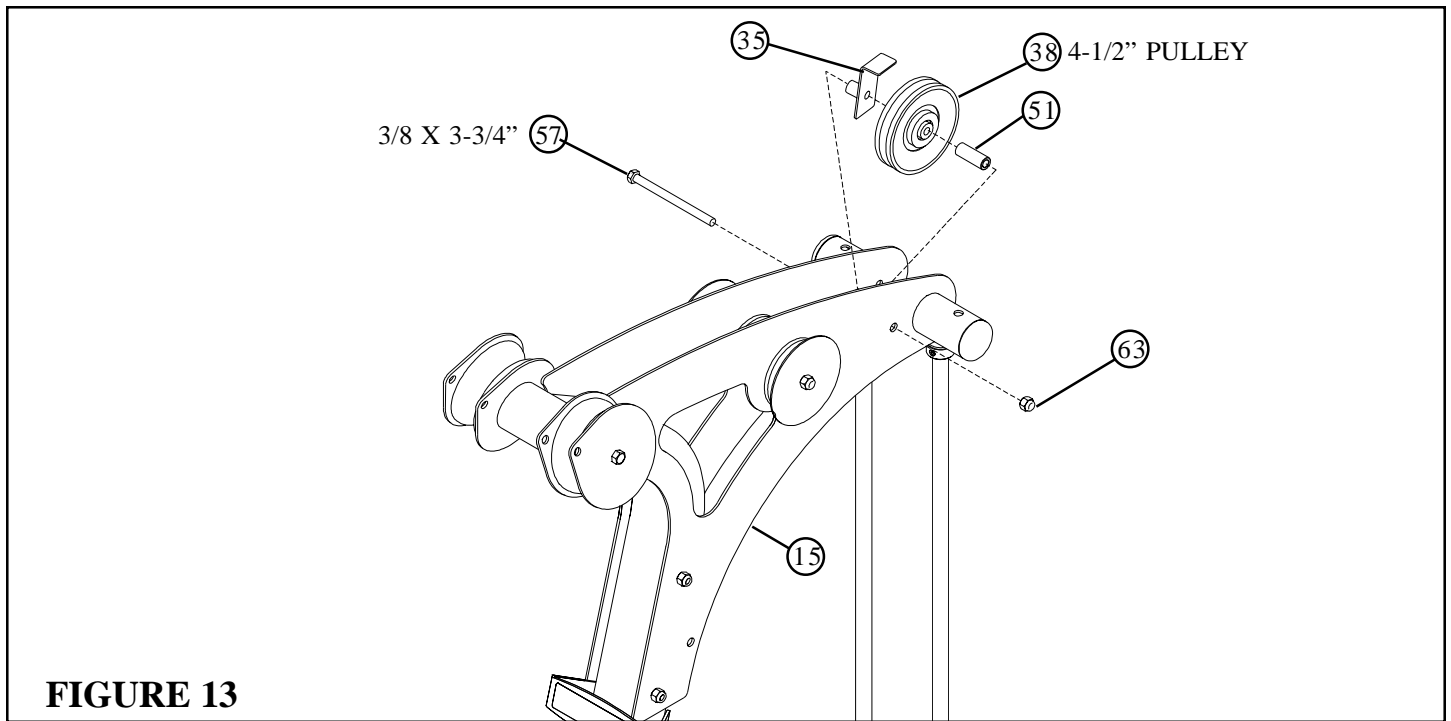

FIGURE 13
- Assemble one 4-1/2" PULLEY (38) to the BOOM PLATES (14 & 15) using one 3/8 X 3-3/4" BOLT (57), one 3/8 X 1" SPACERS (51), one 4-1/2" CABLE GUARD (35) and one 3/8" LOCK NUT (63). See FIGURE 13.